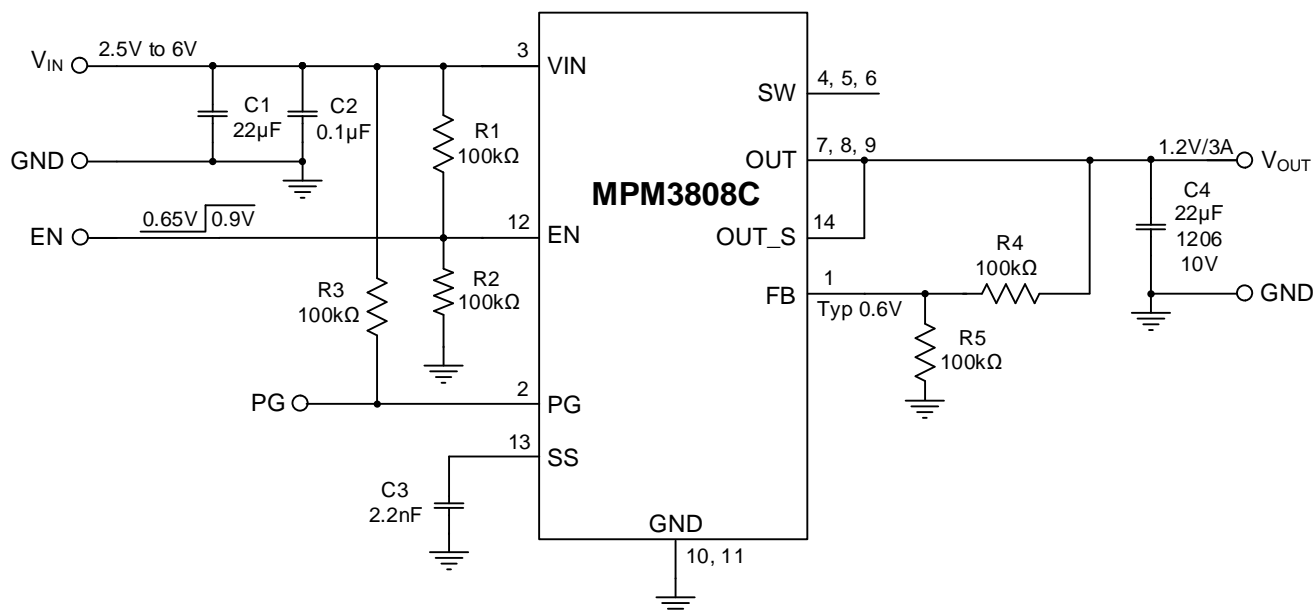
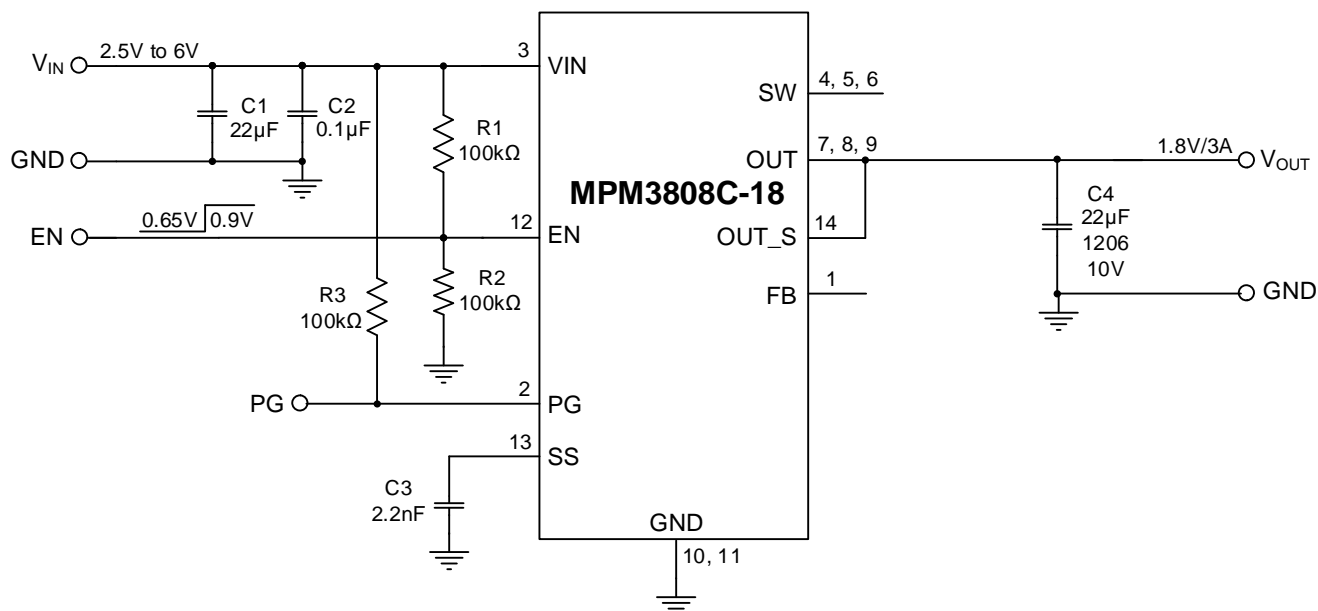

Figure 7: Typical Application (Adjustable Output, $V_{OUT} = 1.2V$)
Figure 10: Typical Application (Fixed Output, $V_{OUT} = 1.8V$)
11) The recommended PCB layout is based on Figure 7 on page 24.
Updated the max V_{IN} from 5.5V to 6V for Figure 7 to Figure 10.	24–25